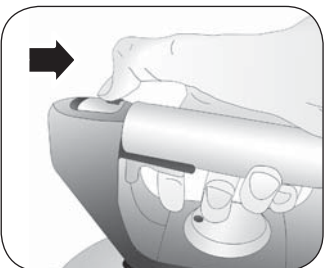
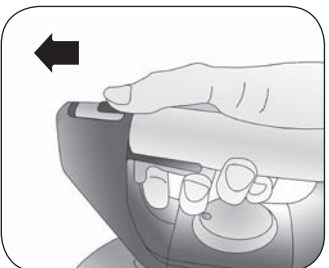

Fig. 6
Fig. 7
Set the ironing temperature by turning the adjustment knob (M) past the symbol (***). When the temperature is reached, move the cursor (N) toward the handle (Fig. 6). The button (O) will stay locked, making the jet of steam exit continuously and steadily. To stop the continuous jet of steam, push the cursor (N) forward Fig. 7.